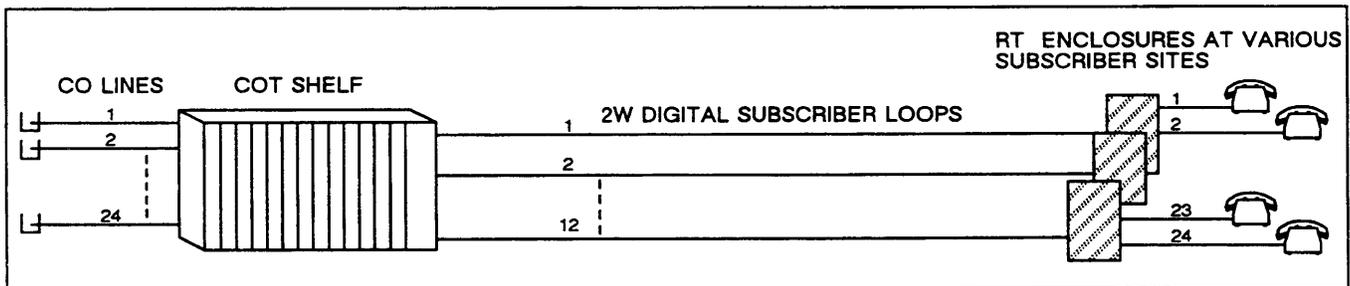

Figure 1. DualLine Plus System Configuration
1.03 This practice provides a general description of the Wescom DualLine Plus System. The DualLine Plus System consists of Central Office Terminal (COT) equipment and a Remote Terminal (RT) connected by a two-wire (2W) local loop using 2B1Q line coding. See Figure 1 for a system configuration.